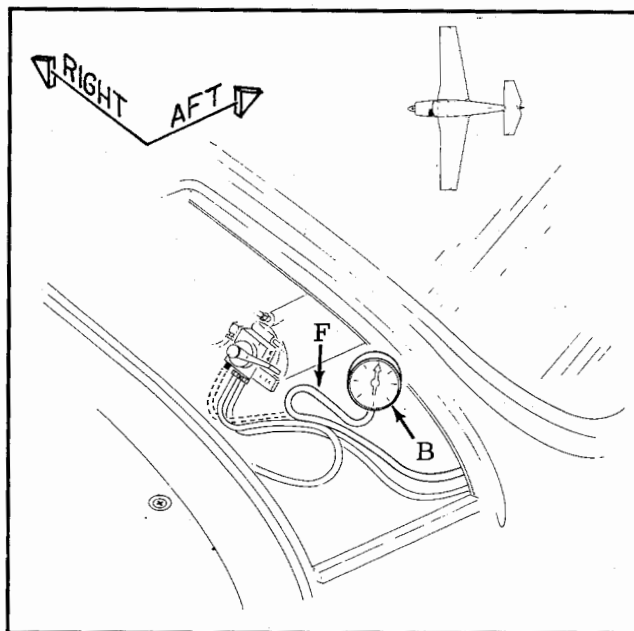
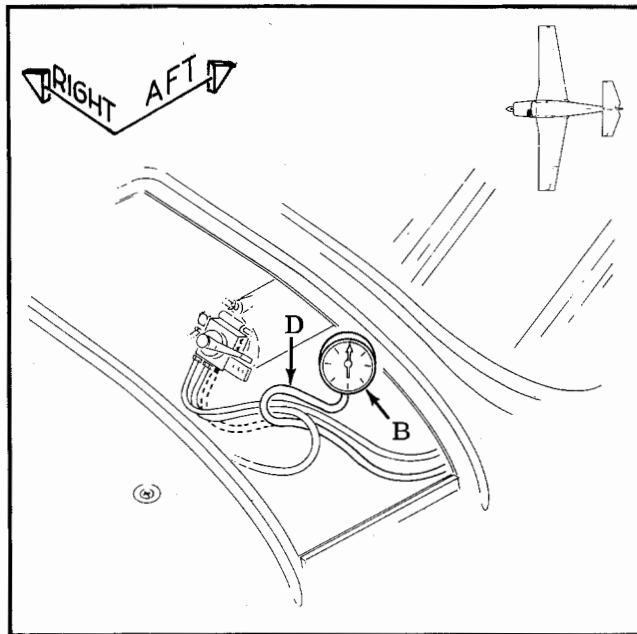

Figure 6-19. Left-Turn Servo Leak Test
Figure 6-20. Right-Turn Servo Leak Test
- Disconnect tubing from back of turn coordinator and install vacuum-test gage (B), Figure 6-19, in open end of servo vacuum tubes (F), Figure 6-19, and (D), Figure 6-20.